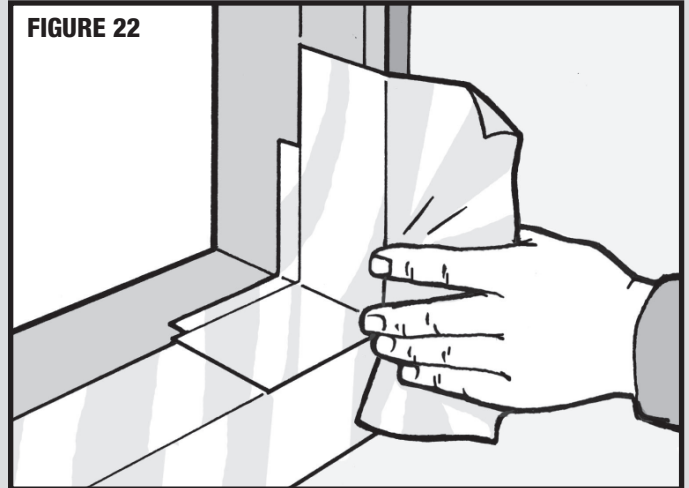

FIGURE 22
Step 14. Bend Corner Protectors. Now bend over the flashing to the face of the wall as shown and smooth out all wrinkles with a J roller. (Figures 22 - 24)